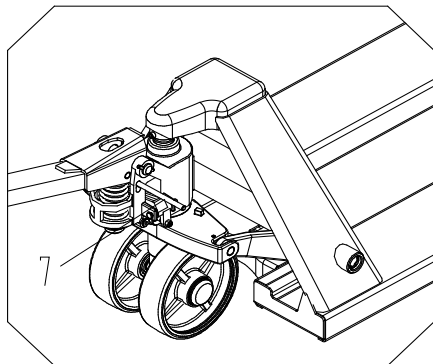

Fig.3
- 3.6 See fig 3, turn the hand grip to the level position, pull out pin 7 and save pin 7 with care for next use.